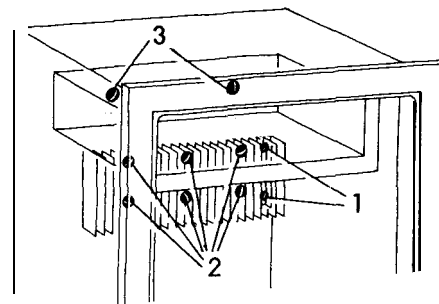

Fig. 14
2. Remove the thermostat capillary tube by loosening the two screws (1) on the evaporator fins (fig. 14).
5. Remove the screws (2) in fig. 14 and take away the evaporator fin. Remove the screws (3).